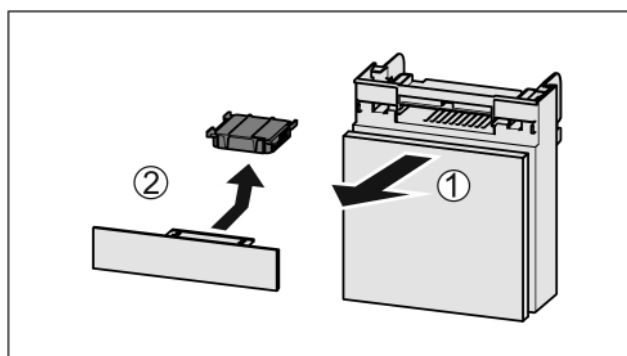

Fig. 137
- Pull out the compartment *Fig. 137 (1)*.
- Remove the carbon filter *Fig. 137 (2)*.